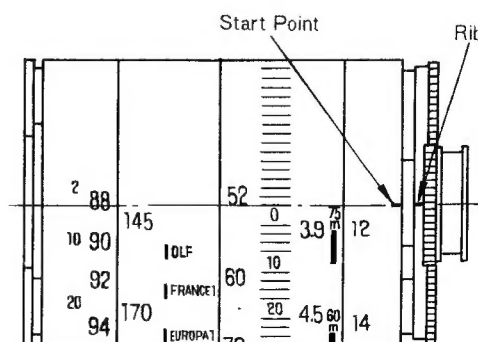

Fig. 4
6. Set the start point of the dial scale with the rib, as shown in fig. 4.
- Set the start point of the dial scale with the rib, as shown in fig. 4.